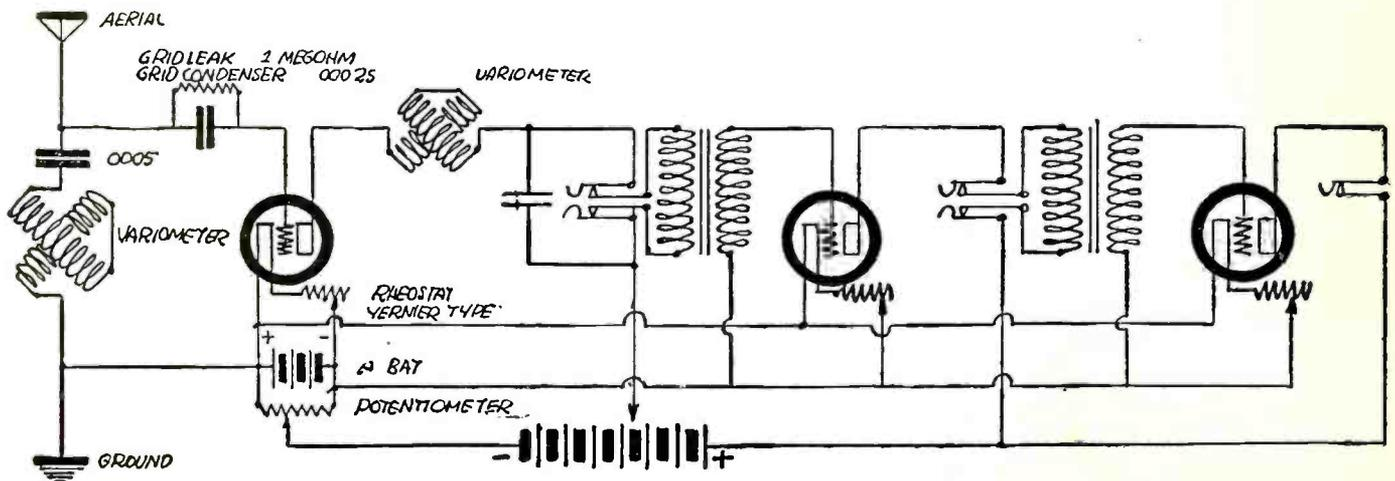

Figure 3.
*Answer:* I am showing the connections in Figure 3. The connections are made the same as in any other circuit.